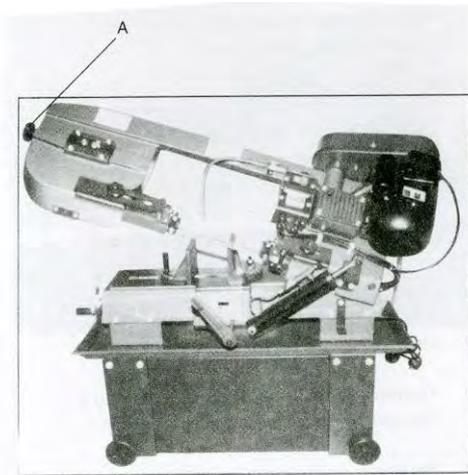

Fig.9
3. Turn blade tension knob (A, Fig.9) one